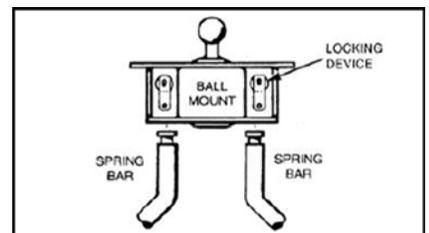

Figure 12: WD spring bars attached to head through socket and secures with clip.
•To remove spring bars, just swing bar around under the bumper and it will drop free (see Figure 12).